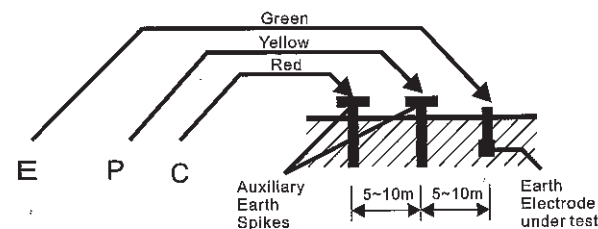

Fig.1
- (1) Connect green, yellow and red test leads to instrument terminals E, P and C with auxiliary earth spikes P1, C1 stuck into earth "IN A STRAIGHT LINE". (Fig. 1)
- (2) Rotary the function switch to suitable range then press the pushbutton to test and take the reading.
- (6) Since measuring current is as low as 2 mA, the earth leakage breaker (ELCB) does not trip even if the earth side of the commercial power supply with an ELCB is used.
*** Follow the proper connection such as Fig. 1, the LED(red) indicator will lit. This proves a correct current circulation is under its operation.**